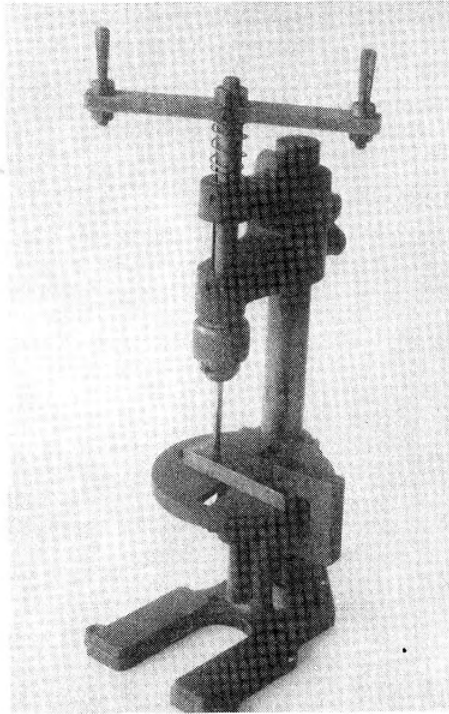

Fig. 12.5 Drilling machine adapted for tapping holes.
M.E. drilling machine but when I acquired a larger and more sophisticated machine I adapted the small one for tapping holes. (See Fig. 12.5)